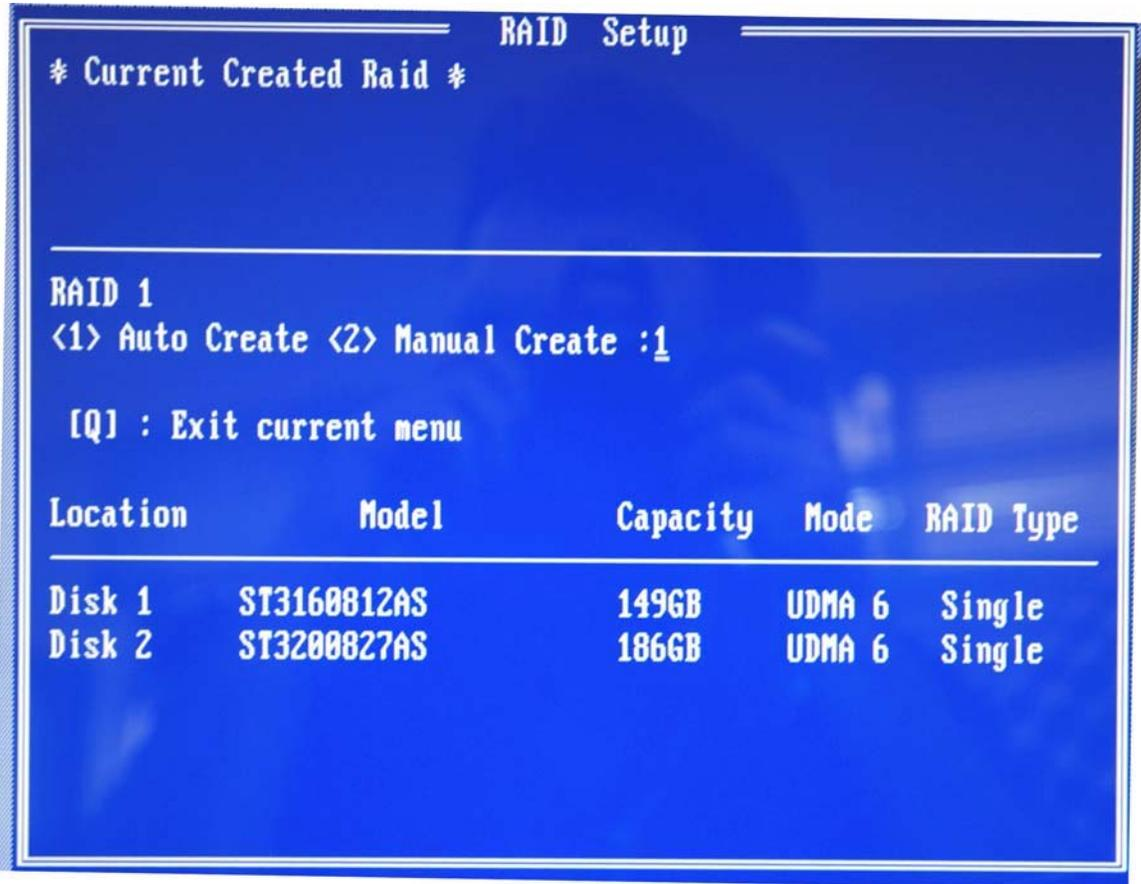

Figure D-8: Select “Auto”
Step 7: The user is prompted to **Auto Create** or **Manual Create**. Select **Auto Create** (see **Figure D-8**).